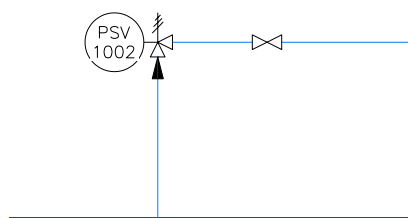

Figure 2-78 Location of the gate valve
10. Place a gate valve on the same line, as shown in Figure 2-78.